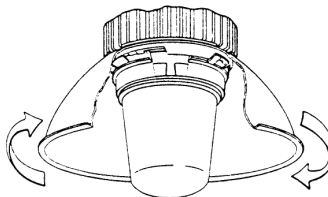

FIGURE 4
2. Rotate reflector clockwise so that the three tabs slide under captivated bosses on adapter ring. See Figure 4.